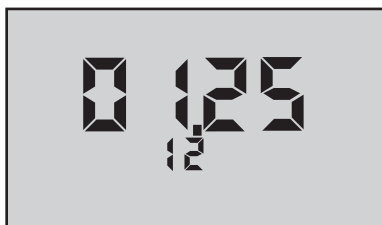

Figure 9
Example shown in Figure 9 is in US format, i.e., mo/dy/yr.
2. Press  repeatedly until the date is displayed (scrolling through stored readings, "PC OFF", "CLR ALL" and time to the date, e.g., "01.25 12" (Figure 9), January 25, 2012).